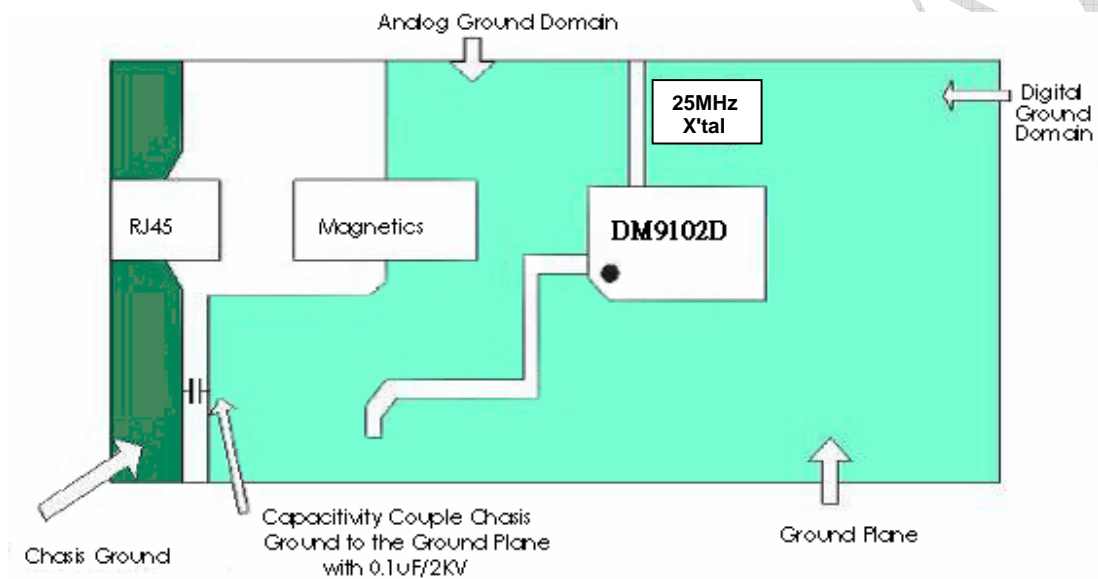

Figure 9-4-1
or ground planes in the area under the network side of the transformer to include the area under the RJ-45 connector (Refer to Figure 9-4-1 and 9-5). Keep chassis ground away from all active signals. The RJ-45 connector and any unused pins should be tied to chassis ground through a resistor divider network and a 2KV bypass capacitor.
- The ground plane must be separated into Analog ground domain and Digital ground domain. The line which connects the analog ground domain and digital ground domain should be far away from the AGND pins of DM9102D (see Figure 9-4-1).